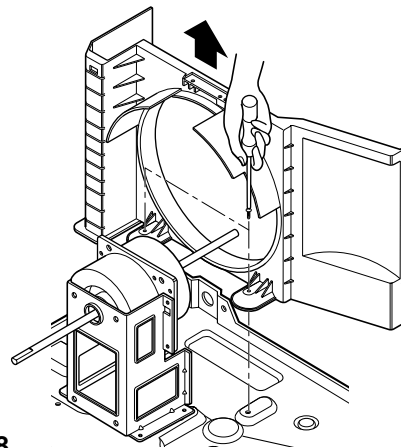

Figure 8
3. Remove the shroud. (See figure 8)